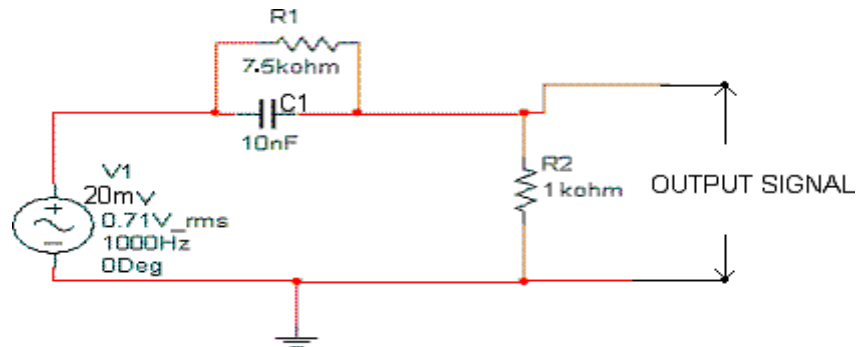

Fig.4.1. Pre-emphasis circuit
1. Connect the circuit as per circuit diagram as shown in Fig.4.1.